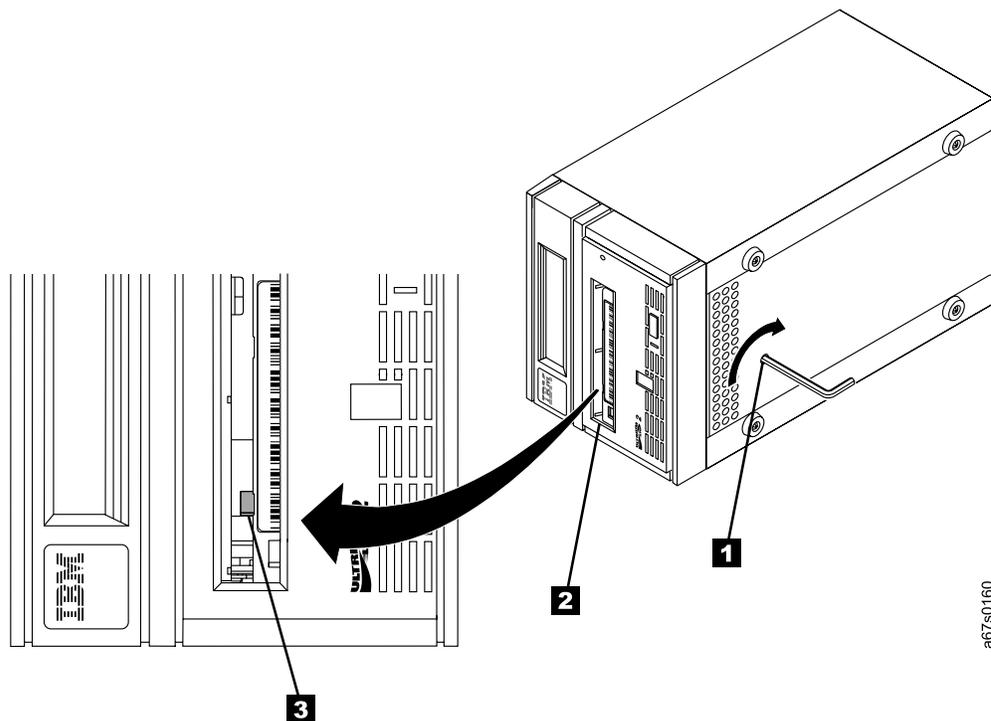

Figure 25. Determining whether the tape is broken
5. Insert a 2.5-mm allen wrench (see **1** in Figure 25) into the access hole and position the wrench so that it is seated in the access screw (not visible).